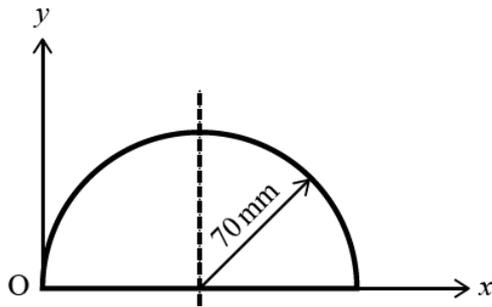

Fig. 4
- 3 (a) **Fig. 4** shows a semicircle with a radius of 70 mm aligned within a Cartesian coordinate system, (x, y) , with the origin at point O.